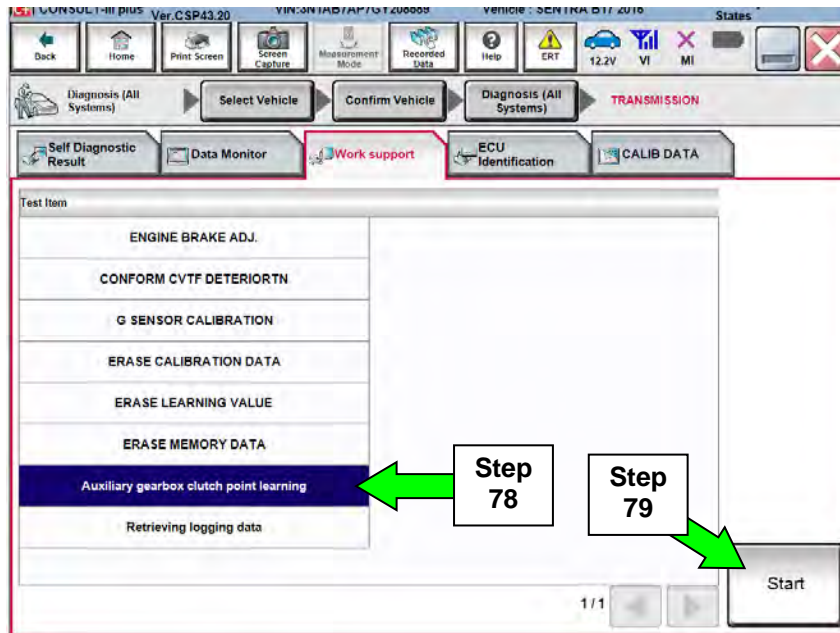

Figure 41
77. Navigate C-III plus to the screen shown in Figure 41.